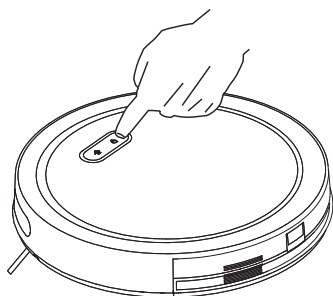

Figure 1
1. Long press the robot right button for 2 seconds. Robot will be enter to standby by mode. Press the button again, the robot starts to clean, the blue light is long bright. Long press the robot right button for 5 seconds, the robot will tun off. (Figure 1)